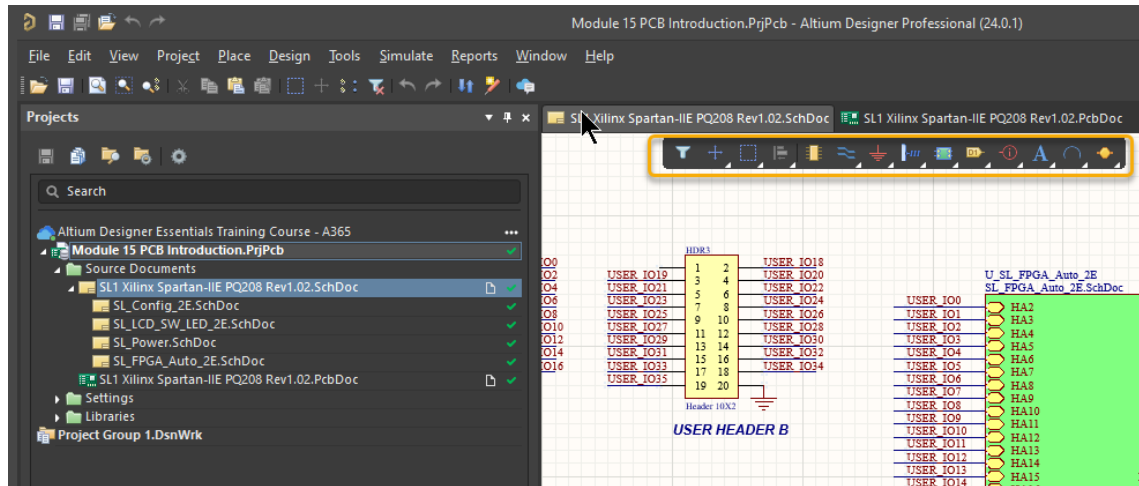
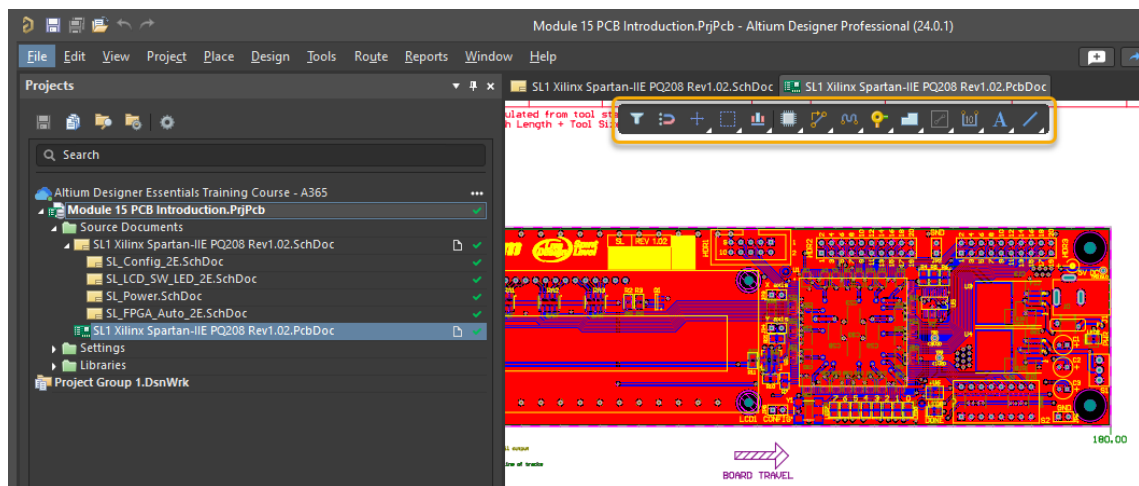

Figure 1. Schematic Design Environment
Figure 2. PCB Design Environment
9. A change from Sch to PCB or vice-versa is a change from one document type to another, this change of focus also changes the working environment and the menus available, as seen in Figure 1 and Figure 2